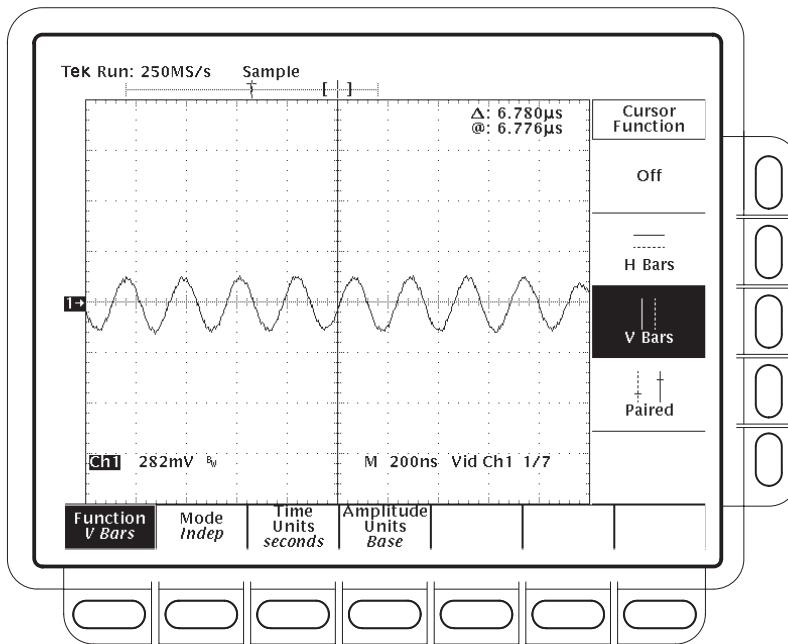

Figure 4–36: Line count accuracy correct result waveform
- Verify that the cursor is positioned on a positive slope of the burst signal. See Figure 4–36.